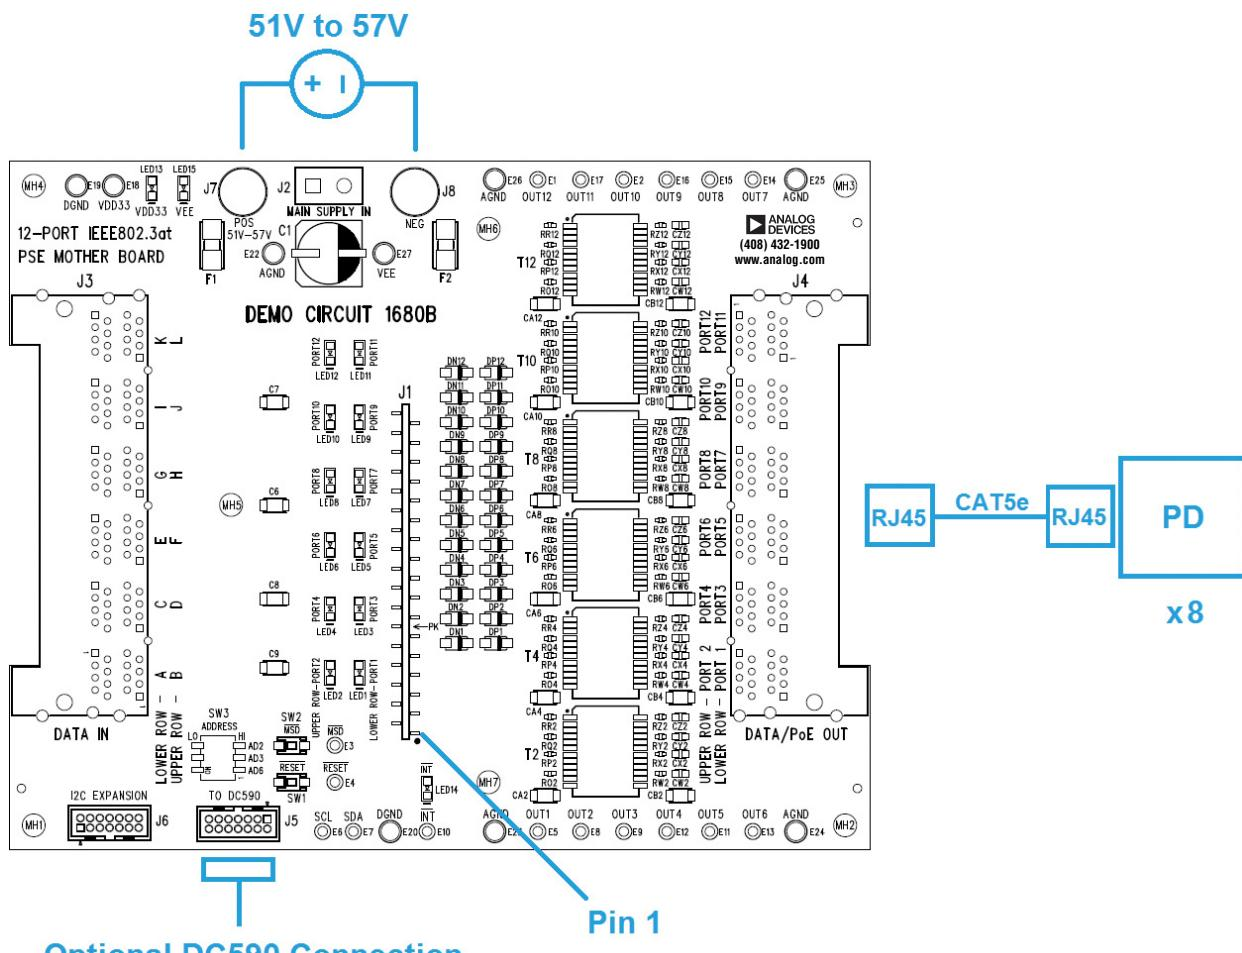
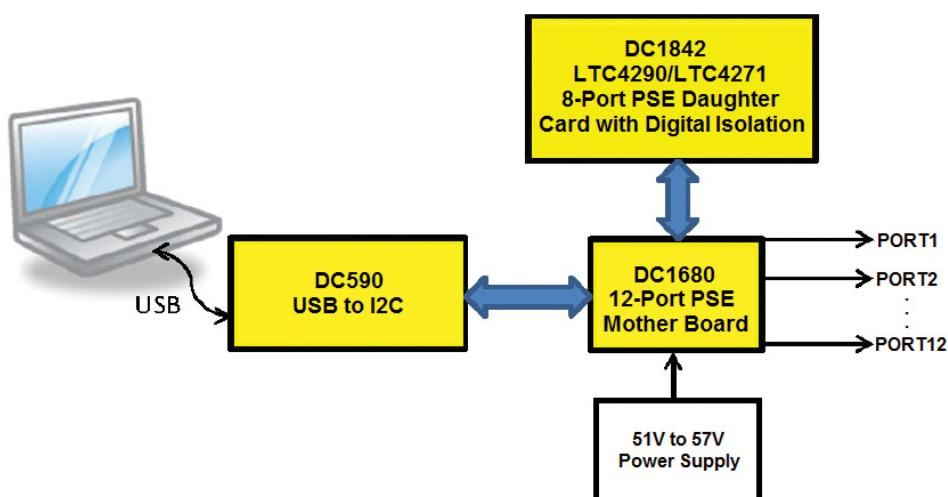

Figure 3 DC1843B Basic Setup
Figure 4. DC1843 System Setup with the DC590, DC1680, DC1842 and 51V to 57V Power Supply
4. On the DC1680B, connect a supply with the positive rail to POS and negative rail to NEG (Figure 3). Use a power supply capable of sourcing the maximum load expected ($8 \text{ ports} \times 850\text{mA} \geq 6.8\text{A}$). Ramp the supply up to 51V to 57V.
5. Connect up to 8 PDs to ports 1-8 at the DC1680B, J4 (Figure 3).
6. The DC590 is optionally connected to the DC1680B connector J5 with a 14-pin ribbon cable (Figure 3). A GUI for the LTC4290B/LTC4271 is brought up by QuikEval for I²C interfacing from a PC (Figure 4).
Connect a power supply for V_{EE} with the positive rail to POS and negative rail to NEG as shown in Figure 3 of the Quick Start Procedure. Set the voltage within the range in Table 1 depending on whether the application is a Type 1 or Type 2. Choose a power supply rating and set the current limit high enough to provide power for the maximum number of PDs connected and to meet each PD power requirements.
PDs are connected using an Ethernet cable to any of the 8 ports at the 2x6, RJ45 connector J4 on the DC1680B (Figure 3). Test points for port outputs OUT1 through OUT8 are provided.